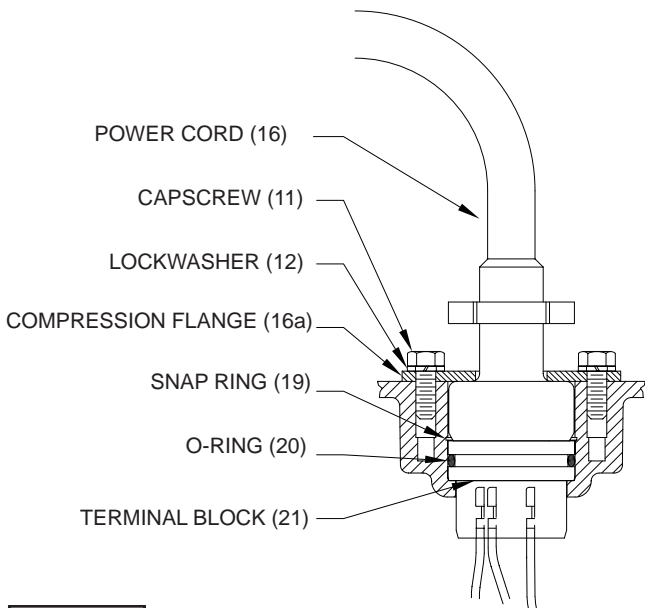

FIGURE 12
Check power cables (16) for cracks or damage and replace if required (see Figure 12). Make internal wiring connections which are independent of the terminal block as shown, using connectors (48) and wire assemblies (49) as required. **Do not use wire nuts.** Slip motor leads and ground wire through fiberglass sleeve. Lower motor housing (6) down onto seal plate (5) while aligning holes and stringing motor leads through the cable entry bore(s). (Slipping cords inside a 1 ft. length of .5" conduit makes this easier). Place socket head cap screws (47) through seal plate (5) into motor housing (6) and torque to 60 in-lbs. Reconnect motor leads to the underside of the terminal block (21) as shown in Figure 13. Note that the pins are numbered underneath the terminal block. Place o-ring (20) into groove in terminal block and lubricate with dielectric oil. Press the terminal block (21) into the housing so it seats completely below the snap ring groove. Place snap ring (19) into groove in cable entry bore